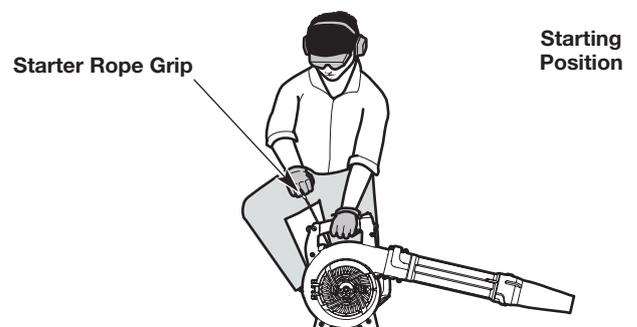

Fig. 7
Avoid accidentally starting the unit. To avoid serious injury, the operator and the unit must be in a stable position when pulling the starter rope (Fig. 7).
5. DO NOT squeeze the throttle control. Crouch in the starting position (Fig. 7).
6. DO NOT squeeze the throttle control. Pull the starter rope with a controlled and steady motion 3 to 5 times to start the engine (Fig. 7).